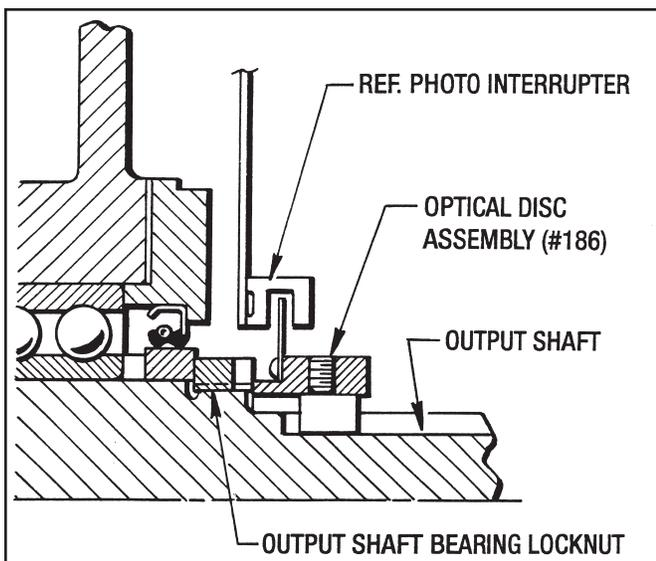

Figure 9.18 - Optical Disc and Hub Positioning
1. Install Key (#234), then slide the Optical Disc Assembly (#186) onto the output shaft, butting it up against the Locknut (#15). (See Figure 9.18)
5. Attach the Disc Housing (#17) to the output end of the Posidyne with the (4) Screws (#76) and (4) Lockwashers (#257).
7. Carefully insert the Circuit Board (#355) into the top of the Disc Housing making sure the (3) Photo Interrupters straddle the Optical Disc. (See Figures 9.18 and 9.19)